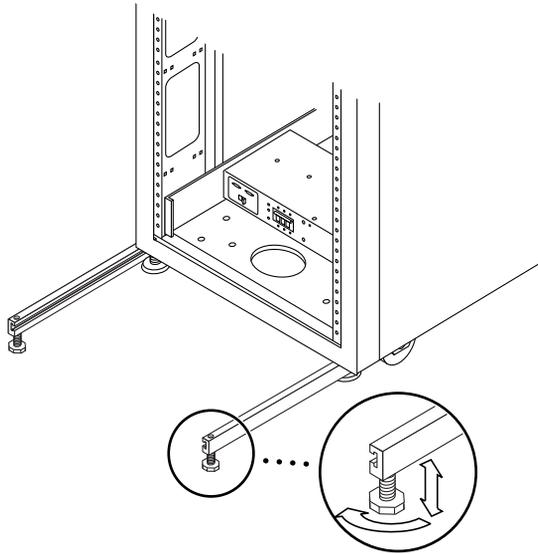

FIGURE 3-4 Adjusting the Leveling Pads on the Stabilizer Leg
- 6. Using the leveling wrench (not illustrated), adjust the feet on both stabilizer legs so that they touch the floor surface (FIGURE 3-4).**